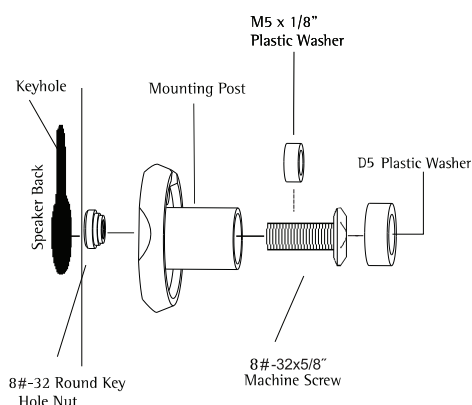

Figure 4
8. Loosely pre-assemble the mounting post with the 8#-32x5/8" machine screw and key hole nut (Figure 4).
10. Put tension on the assembly by gently pulling back on the speaker mount post while tightening the 8#-32x5/8" machine screw (Figure 4).
12. If the post does not tighten securely against the housing, it will be necessary to use the M5 x 1/8" plastic washer as a spacer under the head of the 8#-32 x 5/8" machine screw (Figure 4).